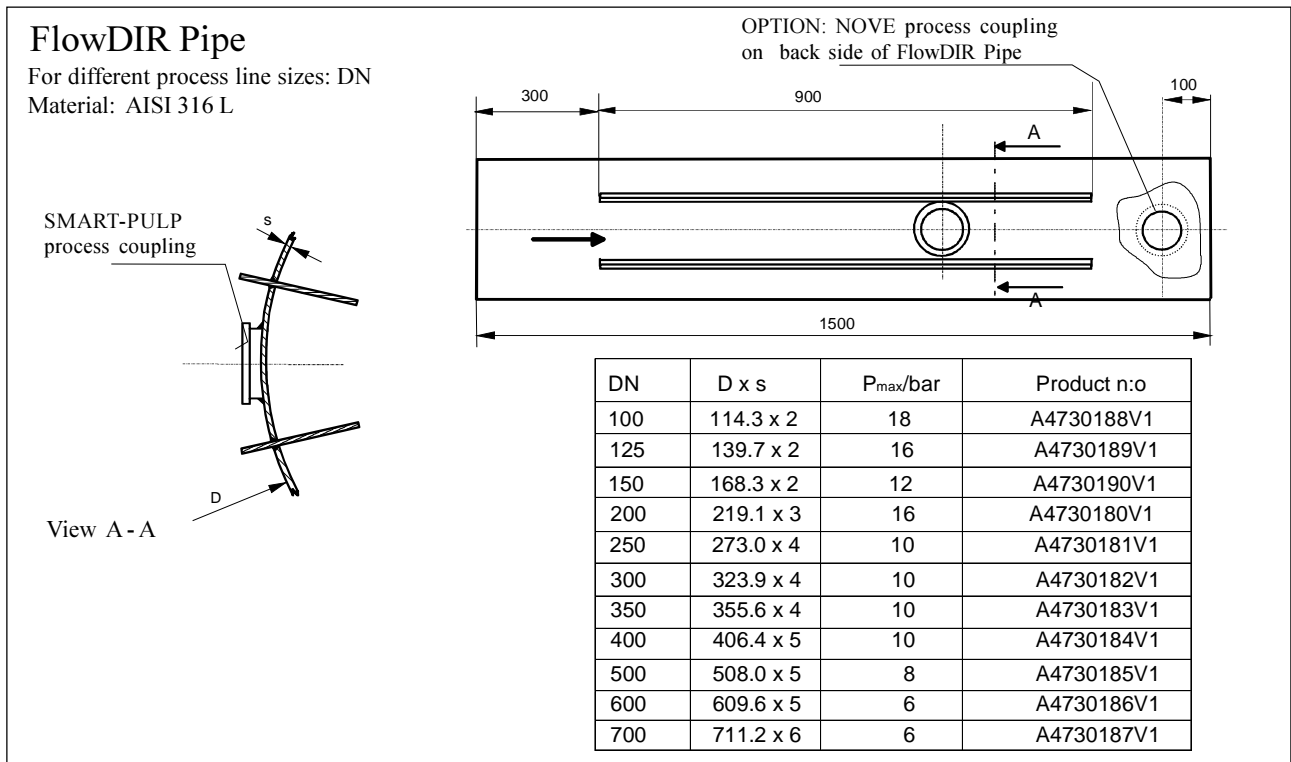

Figure 1.1.2b Installation tube assembly
A. This is the preferred location in terms of the control loop's lag time. If the required length of straight pipe ($L_1 + L_2$) is not provided, you can use an installation tube FlowDIR-P pipe (Fig. 1.1.2b) that can be welded in place immediately after conical expansion.